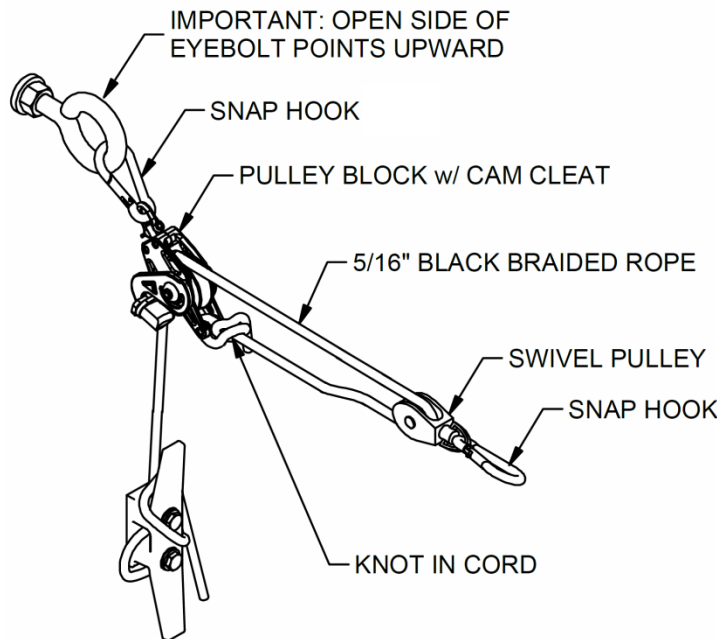

Figure 5: Hoisting Lines
- 4) Make up and install the three hoisting lines. The approximate length of each line will equal twice the distance off the wall, plus 25 ft. Tie one end of the rope to the bottom of the pulley block and then pass it through the swivel pulley. Next pass the rope through the pulley block and cam cleat, as shown in Figure 5. Attach the three hoisting lines to the wall anchors.